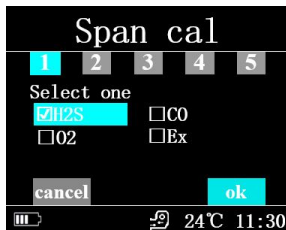

Figure 33
- i. The sensors can only be calibrated one by one. Select the sensor to be calibrated, press ok to next step, as show Figure 33.